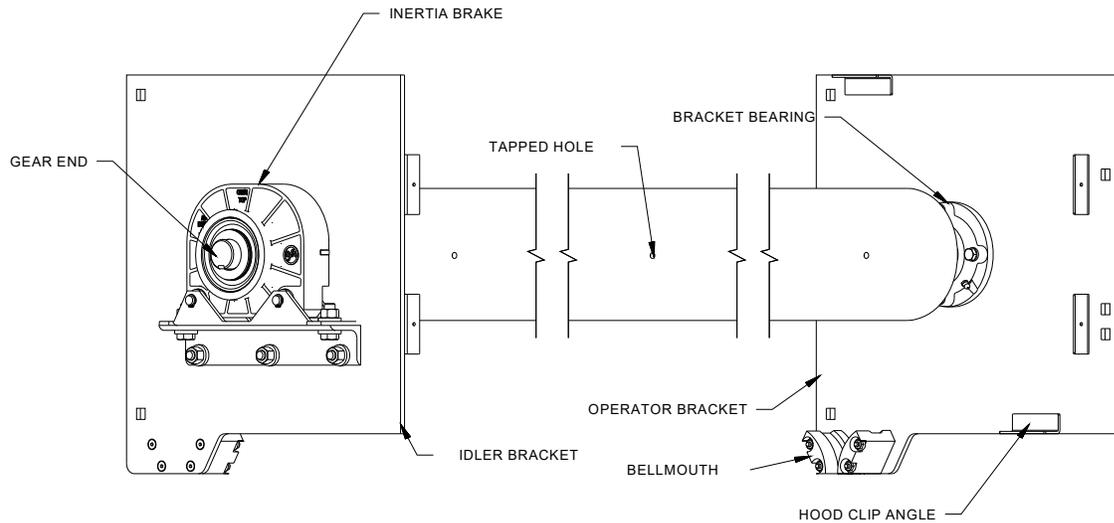

Figure 6.3 – Brackets and Barrel Prior to Installation
4. Locate the brackets. Determine the “operator” and “idler” brackets by referring to **Figure 6.3**. The “operator” bracket may vary significantly based on the operation of the door. The “idler” bracket will come preassembled with an inertia brake. Place the appropriate bracket on each side of the opening corresponding to the “operator” and “idler” sides previously determined.